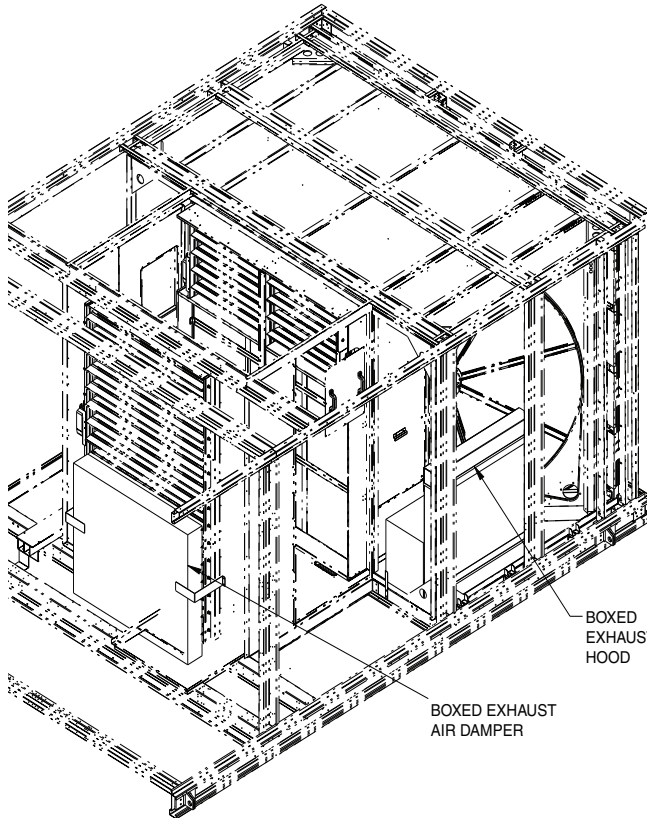

Fig. 26 — Packaging Location for Exhaust Hood and Exhaust Air Damper
1. Remove boxes from unit. See Fig. 26 for locations.